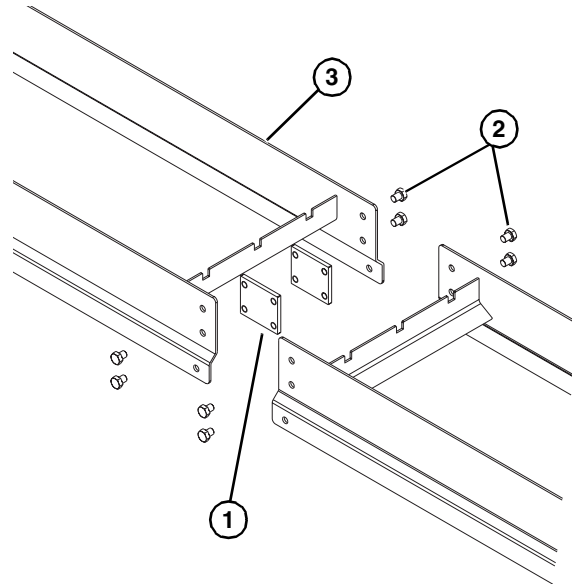

Figure 5
Typical Connecting Components (Figure 5).
2. Join both conveyor sections, and install plate frame connectors (Figure 5, item 1), and secure with M10x12 hex head cap screws (Figure 5, item 2) on both sides.